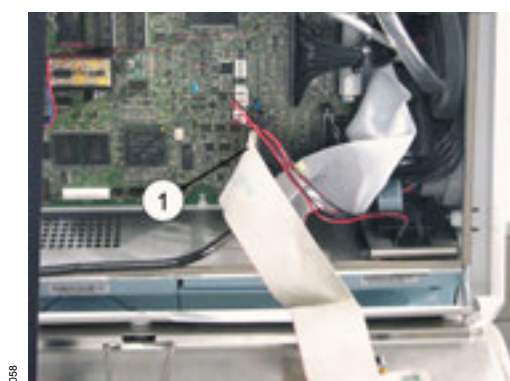

Fig. 46 Detail view of Central Control Board: Cable connector (ribbon cable)
- 4 Hold the locks of the cable connector on both sides (Fig. 46/1) to the cable connector and pull the cable connector from the plug contact of the Central Control Board, ensuring it remains straight.